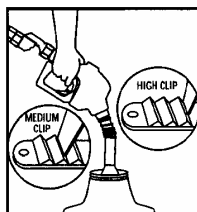

FIGURE 9/FIGURA 9
- Repeat procedure for medium and high clip positions. Nozzle must always shut off. (Figure 9)